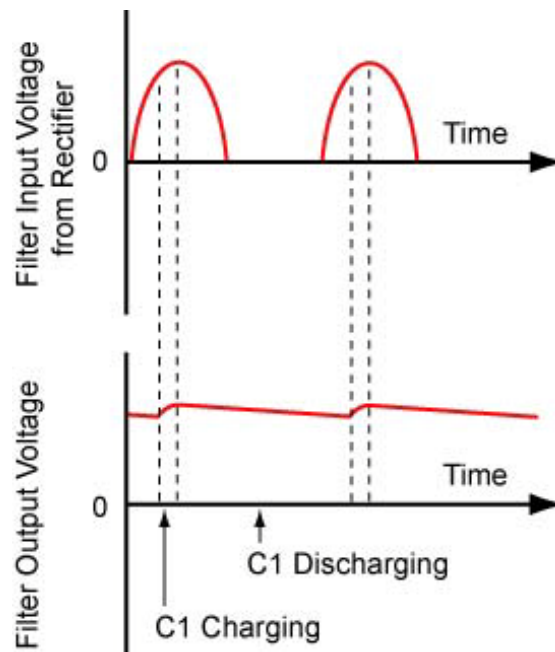

Figure 13 Input and Output Waveforms of a Capacitive Filter on a Half-Wave Rectifier
- A capacitive filter works by charging the capacitor $C1$ when the voltage applied to the capacitor is higher than the voltage stored in the capacitor and discharging the capacitor $C1$ when the voltage applied to the capacitor falls below the voltage stored in the capacitor. See Figure 13. The action of the capacitor smooths out the valleys of the filter input waveform.